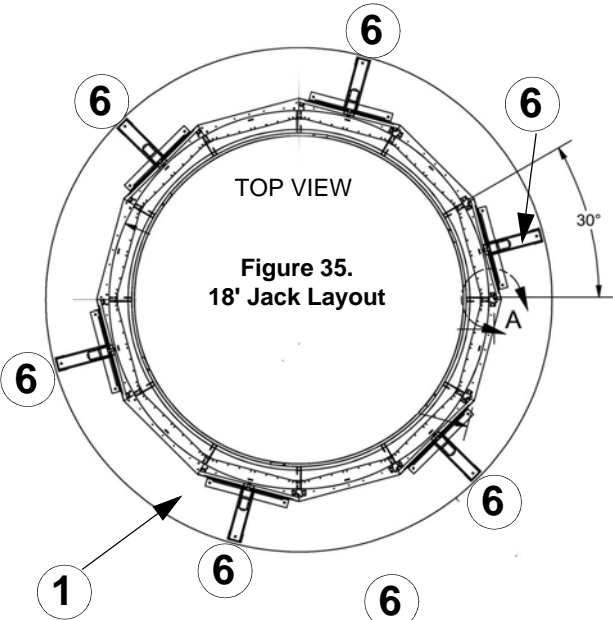

Figure 35.
18' Dryers require six (6) Jacks, at 7000 pounds per jack, rated at 12,000 pounds per jack. See **Figure 35**.